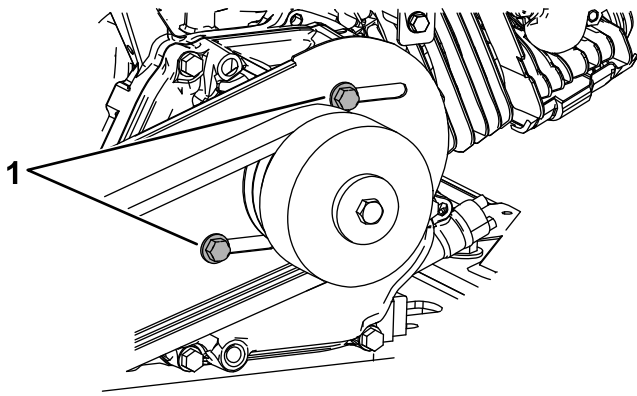
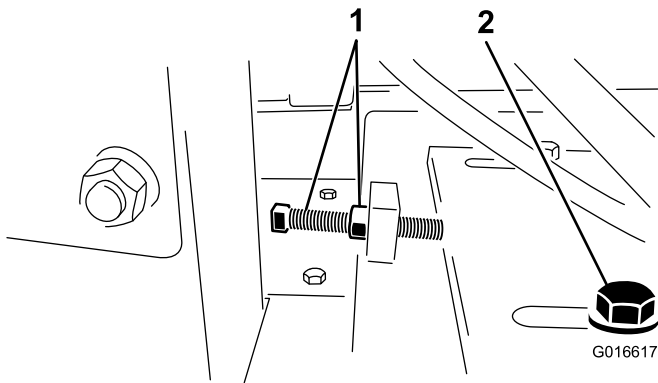

Figure 25
Figure 26
5. Loosen the 4 engine-plate mounting bolts and the 2 bolts securing the rear of the belt guard to the engine (Figure 25 and Figure 26).
6. Loosen the belt-tension bolt and jam nut. Slide the engine toward the flywheel housing to loosen the belt (Figure 26).
6. Loosen the belt tension bolt and jam nut and slide the engine toward the flywheel housing to loosen the belt (Figure 26).